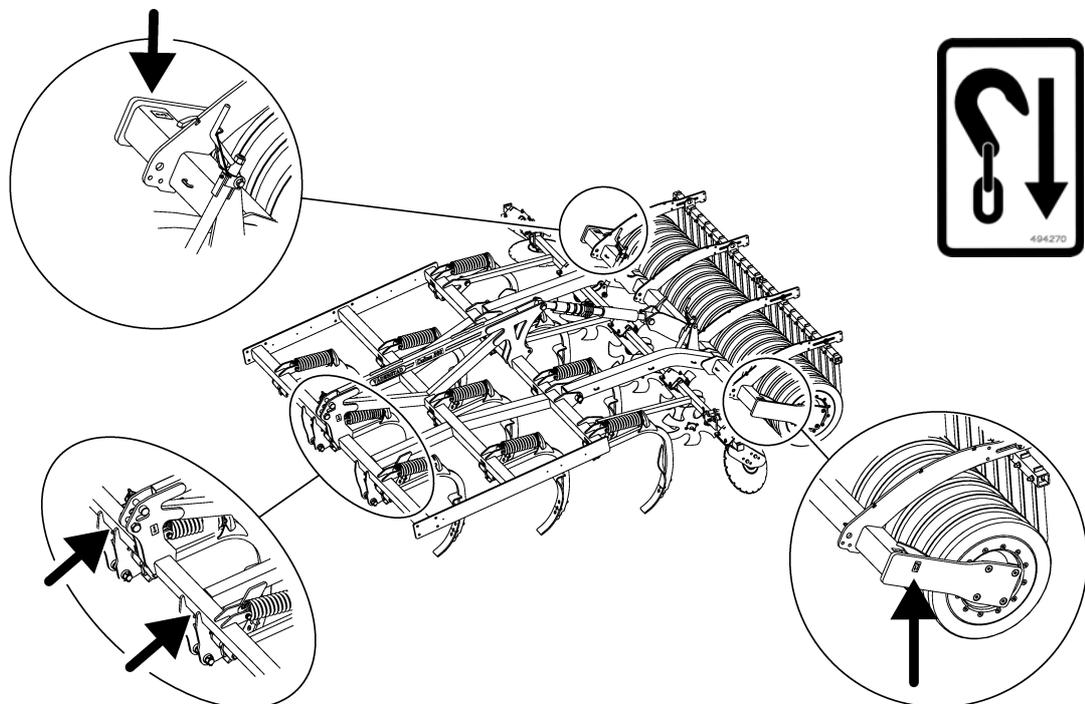

Figure 1.9
- 5 Secure the machine using suitable lashing equipment in accordance with applicable rules. The lashing equipment must be attached to the machine at the locations indicated by the decals; see "Figure 1.9".